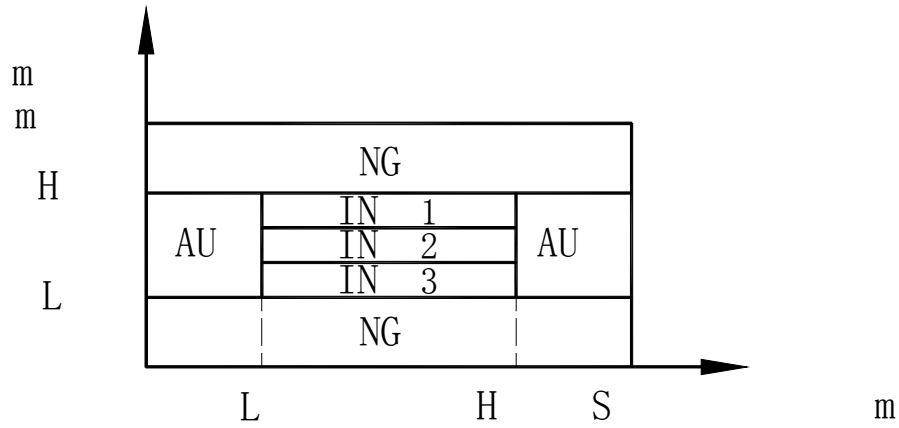

Figure 4-1 /P1, /P2, /P3, /AUX, /NG signal's area example
- /P1**, **/P2**, **/P3**, **/NG**, **/AUX**. See Figure 4-1 signal's area example.